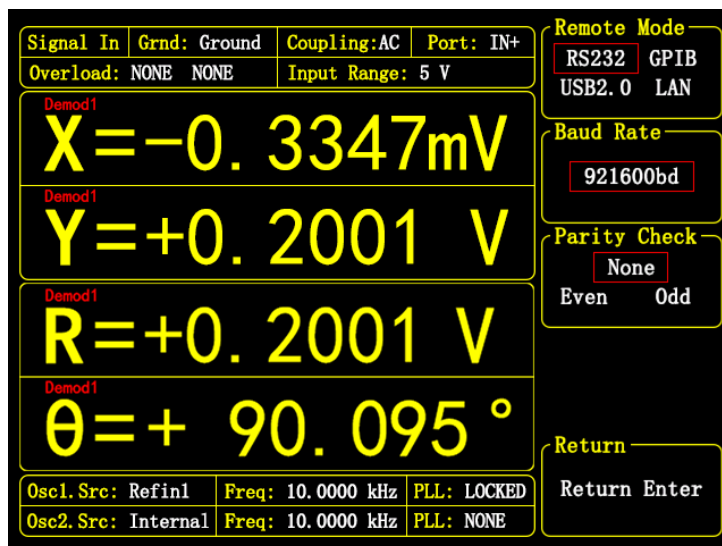

Figure 73. <Remote> submenu—<RS232> option
Select the <Remote> secondary submenu to enter the interface shown in Figure 73.
- <RS232> : RS232 serial communication interface, using a DB9 female connector. The configuration interface is shown in Figure 73.